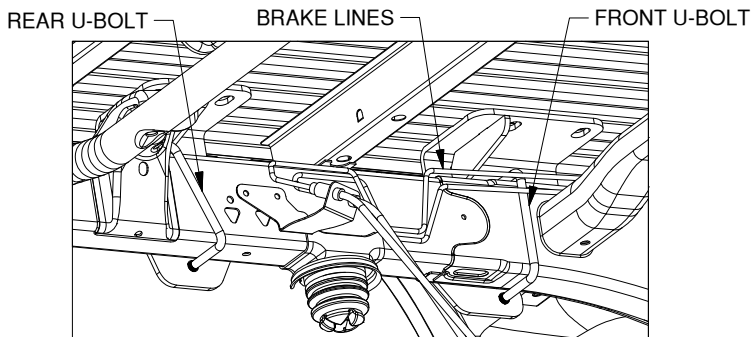

Figure C7: View looking at driver side frame. (Fuel tank not shown.)
4. **Attach the U-bolts.** Each side plate will utilize two U-bolts for attachment to the frame. The driver side front U-bolt will need to be passed under the brake lines on the inside of the frame, see Figure C7. Push U-bolts through holes in side plate. Install lock washers and finish nuts on U-bolts. Hand tighten hardware only at this time.